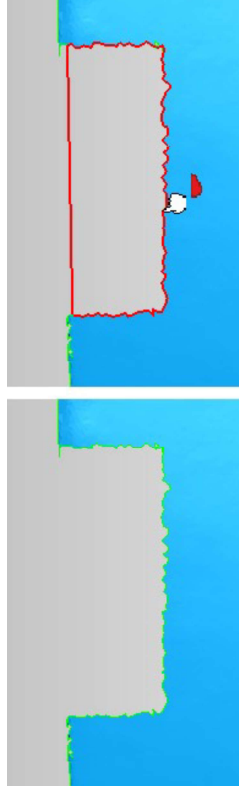

Figure 90
- **Select** the top left corner for the **1st point** and the top right corner as the **2nd point** to create the boundary shown in **Figure 90**.